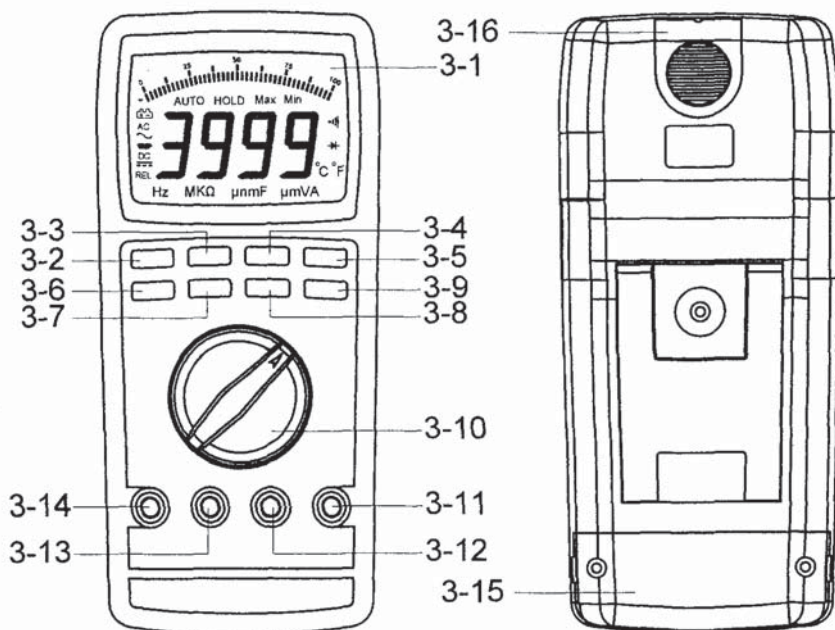

Fig. 1
- a. When not use the meter, should rotate the " Function rotary switch " (3–10, Fig. 1) to the " OFF " position.
Press the " MAX/MIN button " (3–2, Fig. 1) while turning the " Function switch " from the " OFF " position to the desiring function position.
- 1) Connect BLACK test lead into " COM " terminal (3-12, Fig. 1).
- 2) Connect RED test lead into " V " terminal (3-11, Fig. 1).
- 3) Select the " Function rotary switch " (3-10, Fig. 1) to the " V " position.
- 4) Push the " AC/DC button " (3-9, Fig. 1) to select the " ACV " or " DCV " measurement,
- 6) Under the operation of " auto range " mode, push the " Range button " (3-6 Fig. 1) once will execute the " Manual Range " mode and hold the range, the LCD will show the " MANU " marker.
Under the manual range operation, push the " Range button " (3-6 Fig. 1) > 2 seconds, will return to auto range operation.
During the measurement, if push the " VAHz button " (3-7 Fig. 1) once, until the LCD show the " Hz " marker and the display will show the frequency value of the measurement signal.
- 2) Connect RED test lead into " Ω " terminal (3-11, Fig. 1).
- 3) Select the " Function rotary switch " (3-10, Fig. 1) to the " Ω " position.
- 5) Under the operation of " auto range " mode, push the " Range button " (3-6 Fig. 1) will execute the " Manual Range " mode and hold the range, the LCD will show the " MANU " marker.
- 2) For the " mA, uA " measurement, connect RED test lead into " mA uA " terminal (3-13, Fig. 1).
For the " 10 A " current measurement, connect RED test lead into " A " terminal (3-14, Fig. 1).
- 3) For the " uA " measurement (400 uA, 4000 uA), select the " Function rotary switch " (3-10, Fig. 1) to " uA " position.
For the " mA " measurement (40 mA, 400 mA), select the " Function rotary switch " (3-10, Fig. 1) to " mA " position.
For the " 10 A " measurement, select the " Function rotary switch " (3-10, Fig. 1) to " A " position.
- 4) Push the " AC/DC button " (3-9, Fig. 1) to select the " ACA " or " DCA " measurement,
- 3) Select the " Function rotary switch " (3-10, Fig. 1) to the " $\cdot\|$ " position.
- 3) Select the " Function rotary switch " (3-10, Fig. 1) to the " $\rightarrow\|$ " position.